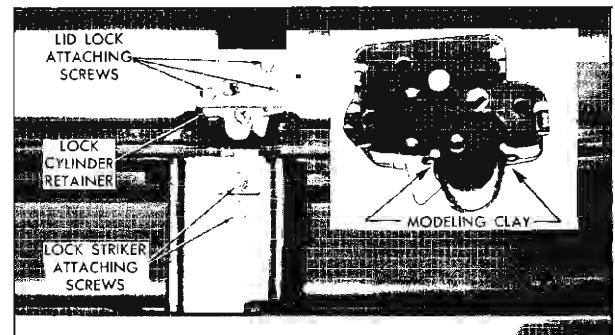

Fig. 14-8 Rear Compartment Lid Lock and Striker
2. Remove lid lock cylinder retainer attaching screws which are located between lid hemming flange and lid lock (Fig. 14-8).
2. Remove rear compartment lock attaching screws (Fig. 14-8) and remove lock.
1. Mark location of striker on compartment lid panel; then, remove striker attaching bolts and remove striker and retaining plate (Fig. 14-8).
1. Place a small amount of modeling clay or body caulking compound on frame of lock at both sides of the lock bolt (Fig. 14-8). Close lid with moderate force.
2. Open lid and check amount of engagement of striker with lock frame, as indicated by the compression of the clay. The striker impression in the clay should be even on both sides of the lock frame (Fig. 14-8). Where required, loosen striker attaching screws; adjust striker sideways or up or down to obtain proper engagement, then tighten screws.